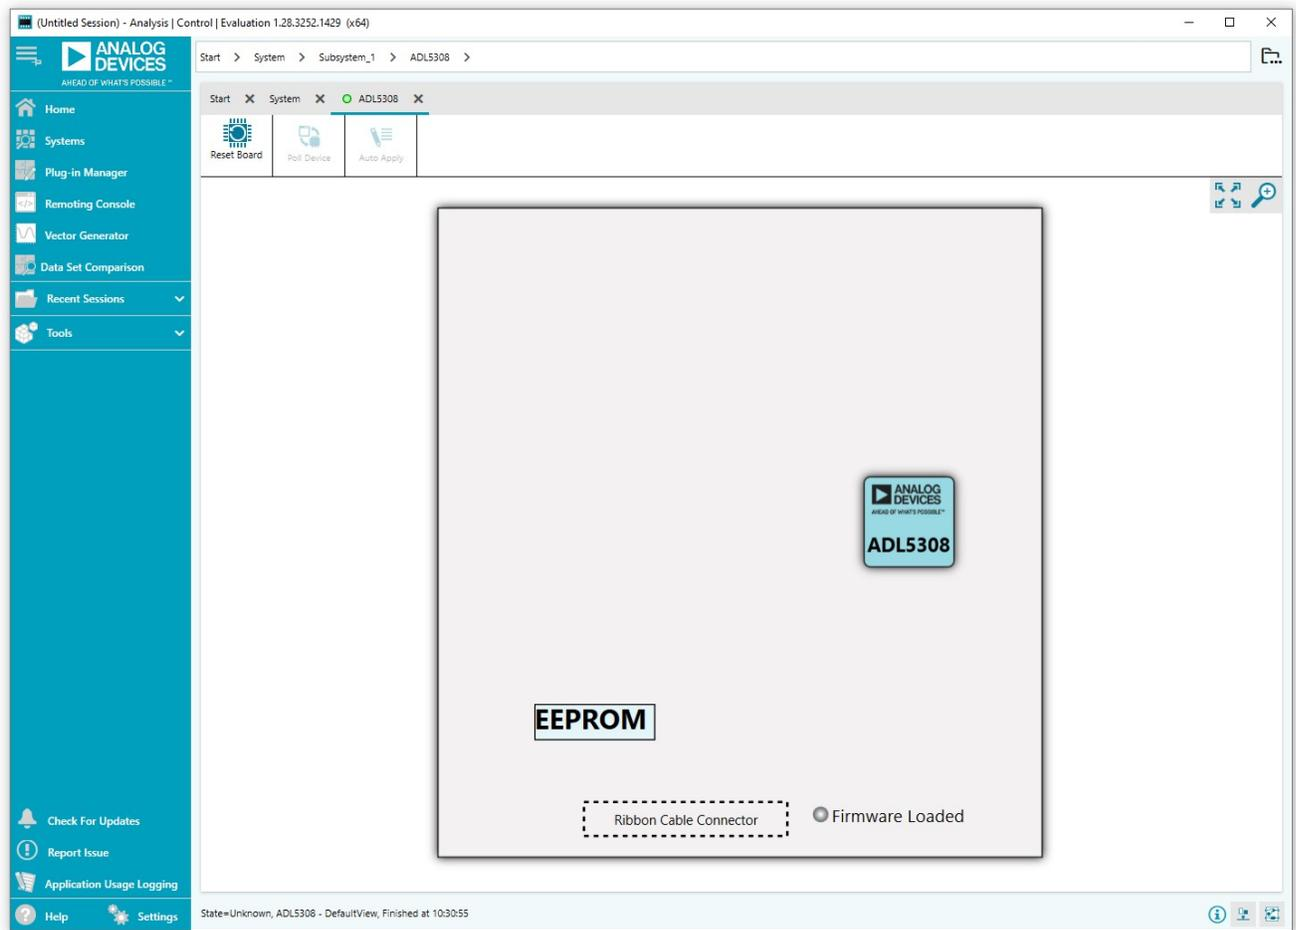

Figure 3. Plug-in View with the Evaluation Board Connected to the ACE System
11. The ACE software shows that the ADL5308 plug-in is available on the **Attached Hardware**. Double-click the plug-in to add to the system. A successfully connected system with a properly loaded plug-in is shown in Figure 3.